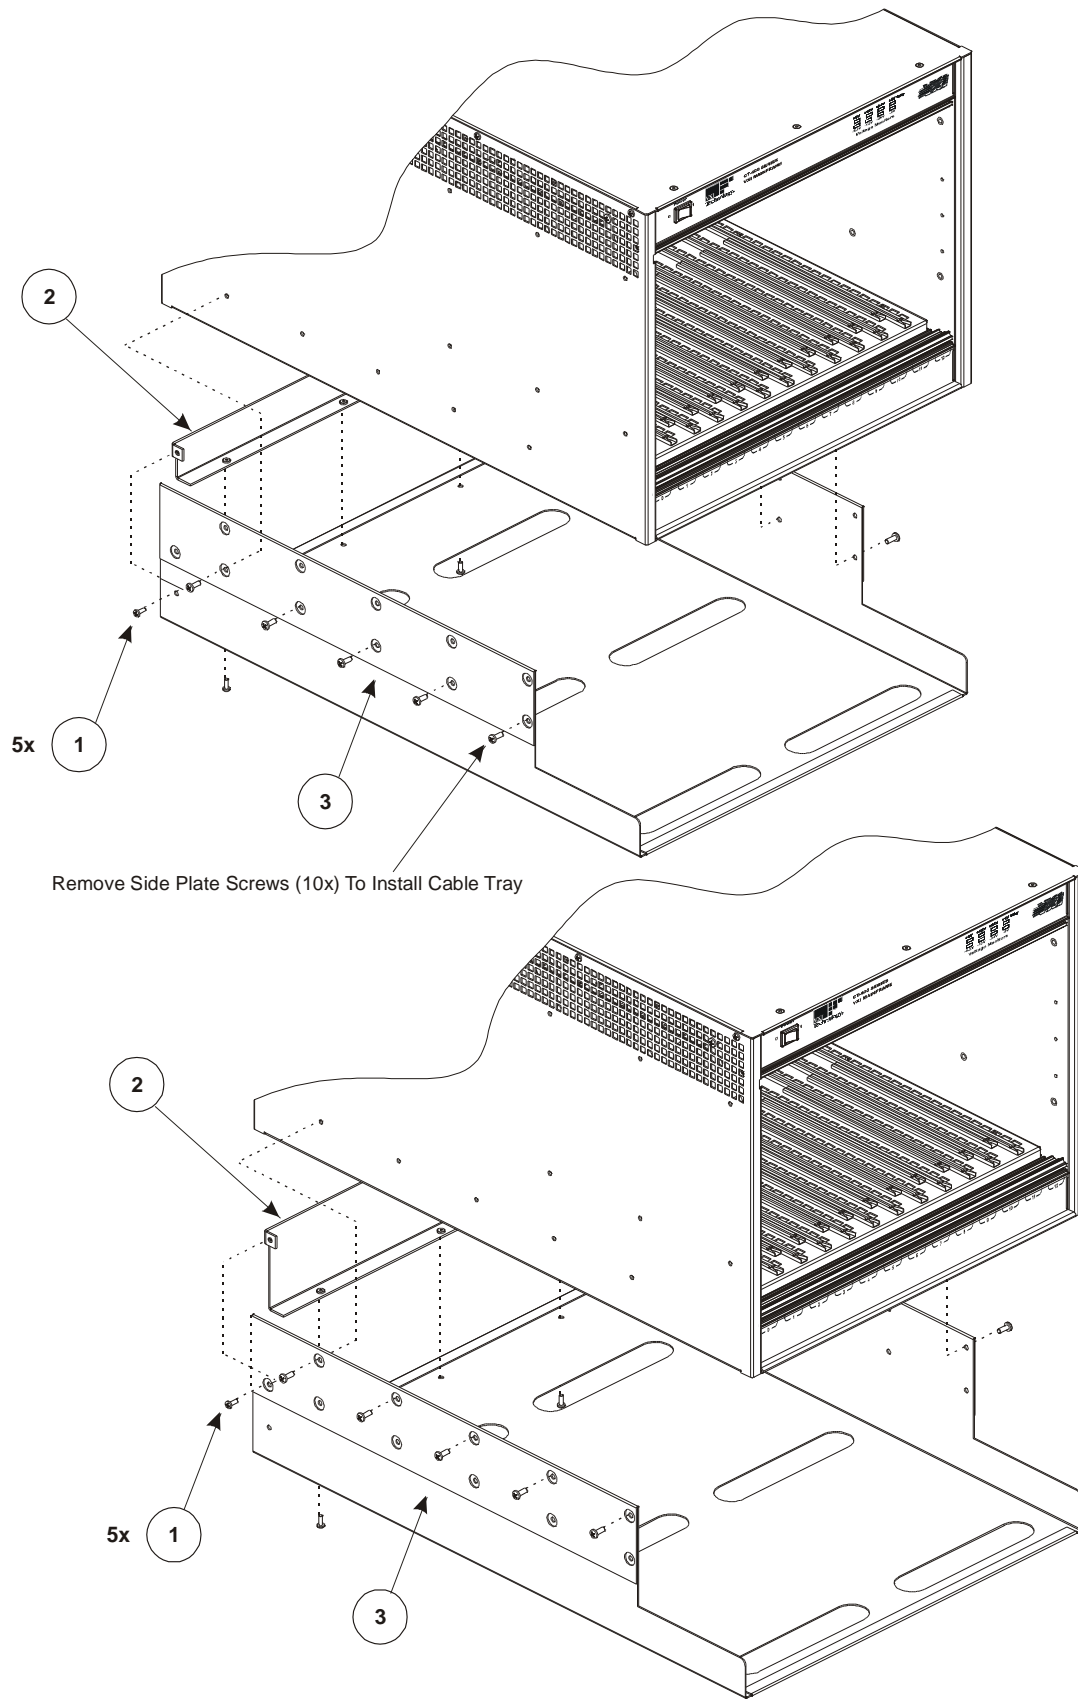

FIGURE 2-8: 1U (TOP) AND 2U (BOTTOM) CABLE TRAY INSTALLATION DIAGRAMS
- 2) Locate the cable tray. Attach the rear panel (either 1U or 2U) using the screws provided with kit. See Figure 2-8 for screw locations.
- 3) Locate the ten screws at the bottom of the side plates and remove. See Figure 2-8 for location.